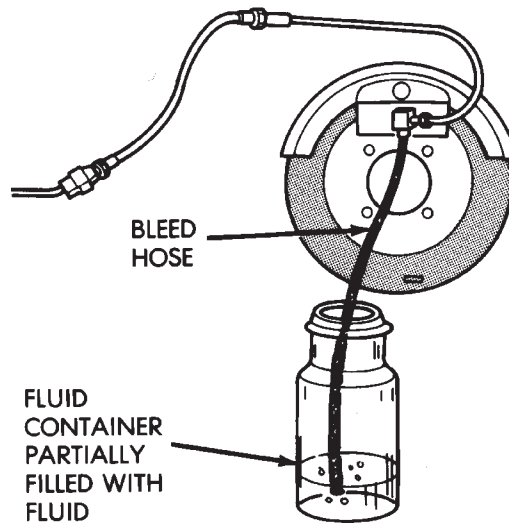

Fig. 13 Bleed Hose Setup
- (1) Remove reservoir filler caps and fill reservoir.
- (2) If calipers, or wheel cylinders were overhauled, open all caliper and wheel cylinder bleed screws. Then close each bleed screw as fluid starts to drip from it. Top off master cylinder reservoir once more before proceeding.
- (3) Attach one end of bleed hose to bleed screw and insert opposite end in glass container partially filled with brake fluid (Fig. 13). Be sure end of bleed hose is immersed in fluid.